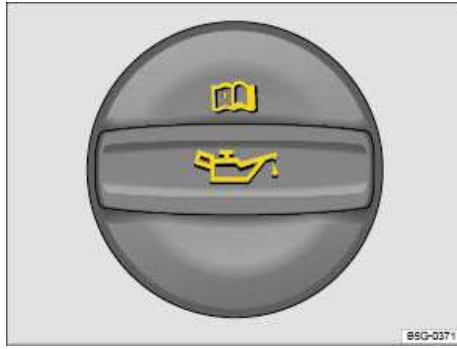

Fig. 143 In the Engine compartment: Engine oil filler cap.
4. Find the oil filler opening and the dipstick. You can identify these by the  symbol on the engine oil filler cap ⇒ fig. 143 and the colored handle on the dipstick. If you are not sure where the cap and the dipstick are located, see your authorized Volkswagen dealer or authorized Volkswagen Service Facility for assistance.
- (A): **Do not start the engine** ⇒ ⚠. Contact an authorized Volkswagen dealer or an authorized Volkswagen Service Facility for assistance.
- (B): **Do not** add any oil ⇒ ⚠. Continue with step 15.
- (C): Oil may be added, depending on the oil level. Continue with step 8 or step 15.
- (D): **You must** add oil (about 1 quart / 1.0 liter). Continue with step 8.
9. Remove the cap on the engine oil filler opening ⇒ fig. 143.